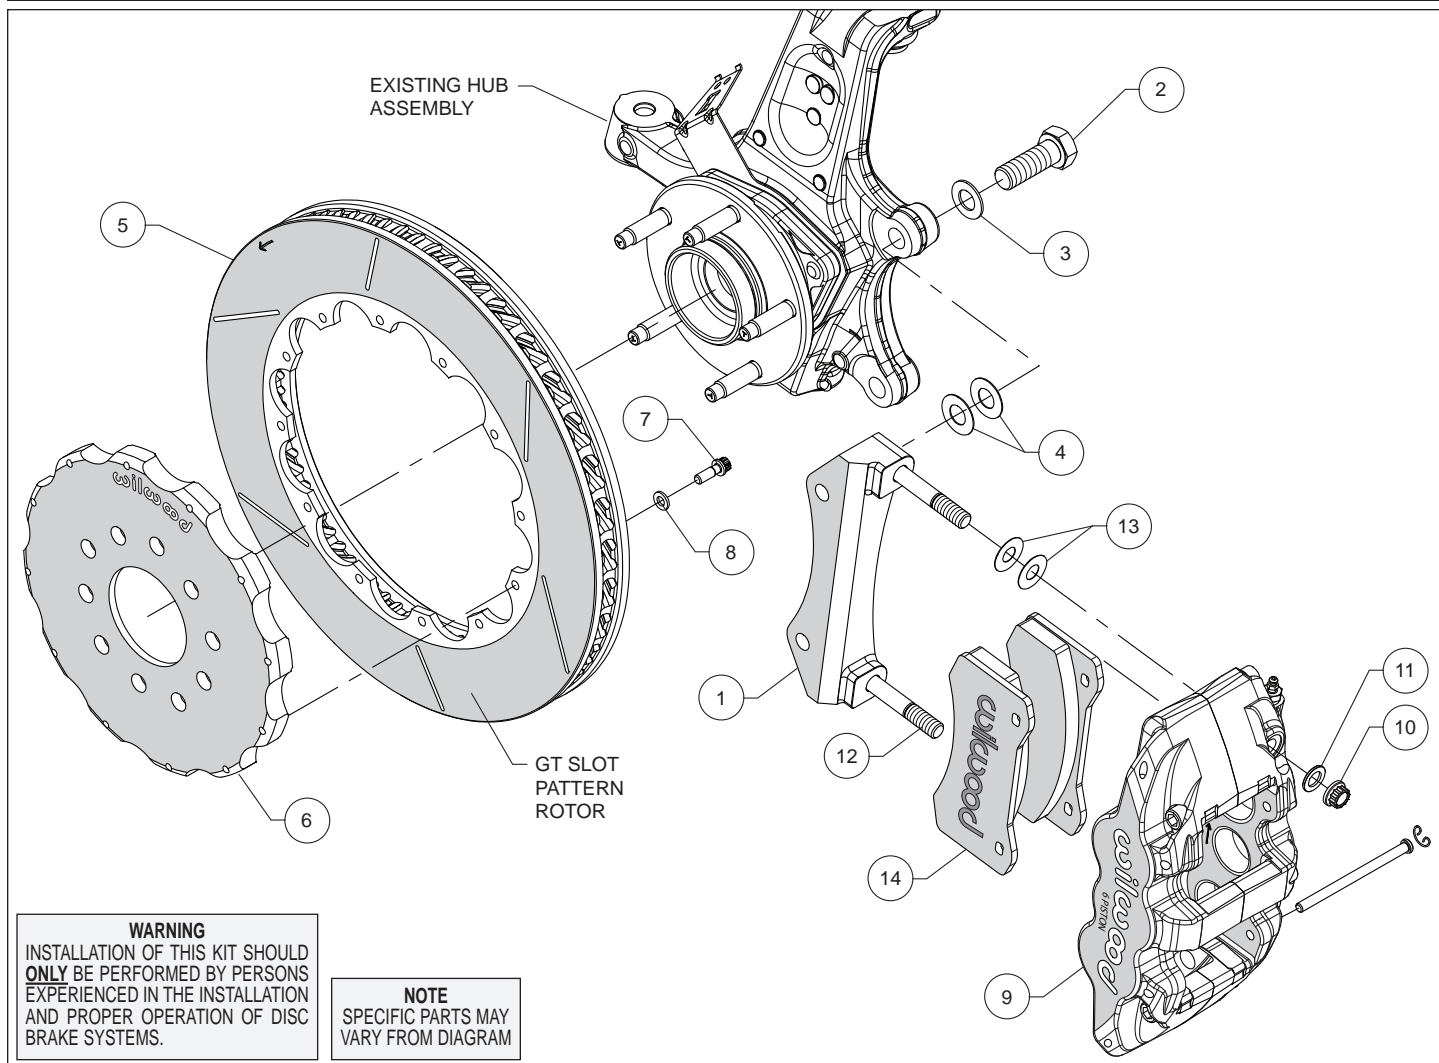
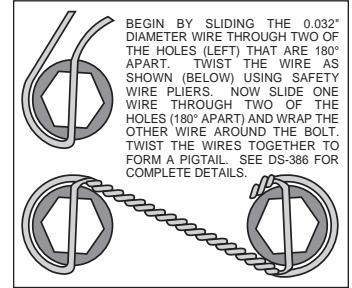

Figure 1. Typical Installation Configuration
Figure 3. Safety Wire Diagram
Assembly Instructions (numbers in parenthesis refer to the parts list and Figure 1 on the preceding pages):
- The caliper mount bracket (1) should initially be installed with clean, dry threads on the mounting bolts. Orient the bracket, as shown in Figure 1 and install using bolts (2) and washers (3). Initially place two .029" thick shims (4) on each bolt between the bracket and upright, Figure 1. Temporarily tighten the mounting bolts. **NOTE:** *The bracket must fit squarely against the mount bosses on the upright.* Inspect for interference from casting irregularities, machining ridges, burrs, etc. Later, after the caliper alignment has been checked, the mount bolts will be secured using red *Loctite*® 271.
- Orient the rotor (5) and the hat (6) as shown in Figure 1 and Photo 1. Attach rotor to hat using bolts (7) and washers (8). Using an alternating sequence, apply red *Loctite*® 271 to the threads, and torque to 155 in-lbs. Safety wire bolts using standard 0.032 inch diameter stainless steel safety wire as shown in Figure 3. Refer to Wilwood's data sheet DS-386 (available at www.wilwood.com/Pdf/DataSheets/ds386.pdf) for complete safety wire installation instructions.
- NOTE:** *This kit contains distinct right and left hand calipers that must be mounted in a specific direction, as described below.* Lubricate the caliper mounting studs (12) with lightweight oil. Initially place two .016" thick shims (13) on each stud between the caliper and the bracket, as shown in Figure 1 and Photo 2. Mount the caliper (9) onto the bracket (1) using lock nuts (10) and washers (11), Figure 1. Temporarily tighten the lock nuts. Ensure that the caliper is mounted so the largest pistons are at the rotor exit end of the caliper, in relation to the direction of the rotor. View the rotor through the top opening of the caliper. The rotor should be centered in the caliper, Photo 3. If not, adjust by adding or subtracting shims (4) between the bracket and the upright. Always use the same amount of shims on each of the two mounting bolts. Once the caliper alignment is correct, remove the bracket mounting bolts (2) one at a time, apply red *Loctite*® 271 to the threads, and torque to 77 ft-lbs.
- Remove the two pad retaining pins from the caliper (9) by carefully popping out the pin retaining clips and sliding out the pins. Insert the brake pads (14) into the caliper from the bottom, Figure 1 and Photo 4. With the friction material facing the rotor, secure the brake pads in place with the pad retaining pins and clips, Photo 5. Reinstall the caliper onto the caliper mounting bracket and temporarily tighten the lock nuts (10). Check that the top of the brake pad is flush with the outside diameter of the rotor, Photo 6. If not, adjust by adding or subtracting shims (13) between the caliper and the bracket. After the caliper pad height is set, torque the caliper lock nuts (10) to 47 ft-lb.